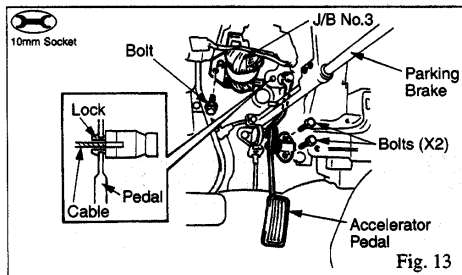

Fig. 13
(12) Remove the accelerator pedal. (2 Bolts) (Fig. 13)
(13) Remove the J/B No.3. (1 Bolt) (Fig. 13)